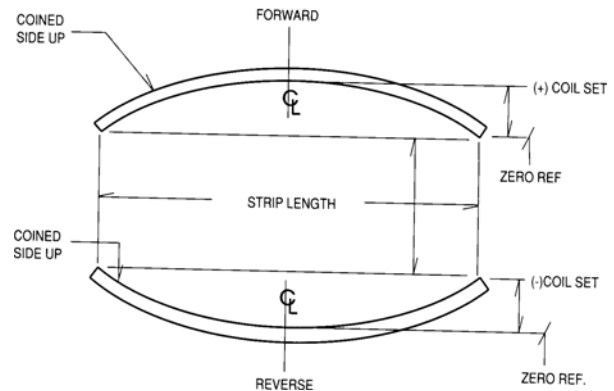

**Figure 2**
*coil set* — Longitudinal bowing of the leadframe (see Figure 2).